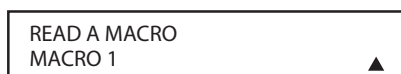

Figure 112.
- The next display screen (**Figure 112**) is where you select the macro to be read. Press the **▲/▼ Navigation Button 16** until the name of the macro you wish to read appears. For this example, we will read back Macro 1, created in a previous section. When the name of the macro to be read appears, press the **Set Button 18**.